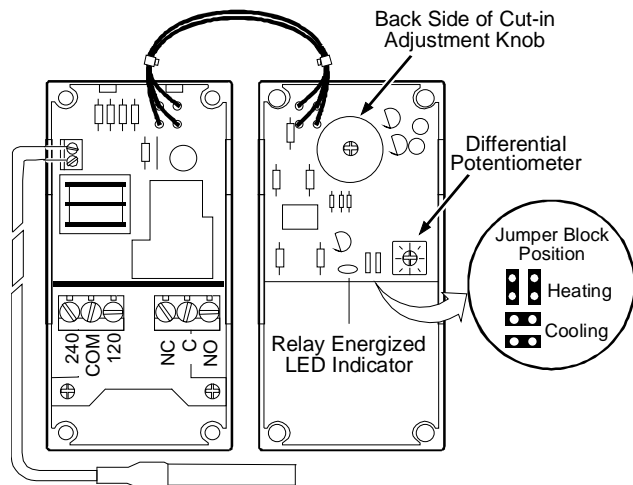

Figure 2: A319 Electronic Temperature Control Board Layout and Terminal Locations
Differential is defined as the change in sensor temperature between relay energize (cut-in) and relay de-energize (cut-out). The differential can be adjusted between 1 and 30°F (0.6 to 17°C) for the A319ABC-12 and -24 models, and between 1 and 15°F (0.5 to 8°C) for the A319ABC-07 model. Adjust the potentiometer (marked DIFF.) to set the differential. Refer to Figure 2 for potentiometer location.
Models A319ABC-24 and A319ABC-07 are shipped with the heating/cooling jumper blocks installed in the horizontal cooling position. Model A319ABC-12 is shipped with the jumper blocks installed in the vertical heating position (refer to Figure 2).
- Connect the sensor to the terminal strip located at the top left of the printed circuit board (Figure 2). The sensor leads are interchangeable.
2. Set the heating/cooling jumper blocks to the desired mode of operation. Position the jumper blocks vertically for heating or horizontally for cooling (refer to Figure 2).
- a) Select AC volts on a voltmeter and connect it between the “AC COM” and “120V” (or “240V”) terminals located on the terminal block below the relay (Figure 2).